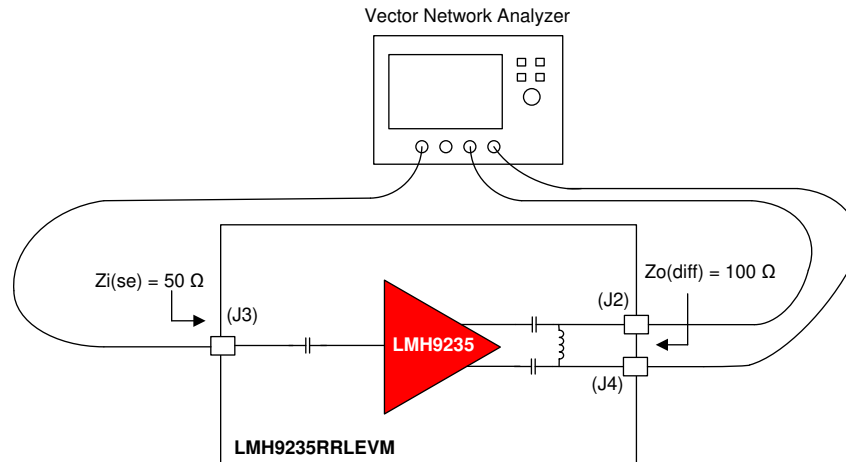

Figure 8. S-Parameter Test Setup
1. S-parameter measurement is typically done using a Vector Network Analyzer (VNA), as Figure 8 shows. For measuring the LMH9235 EVM, a 4-port VNA is recommended which can generate and receive truly differential signals at the input and output ports.